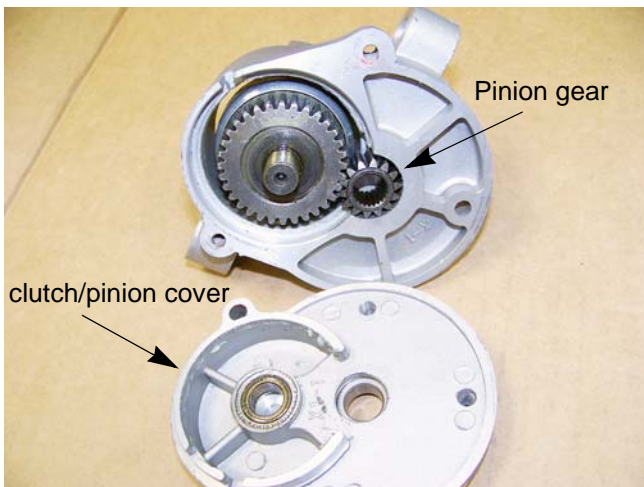

Figure 6.22
5. Install the pinion gear. See Figure 6.22.